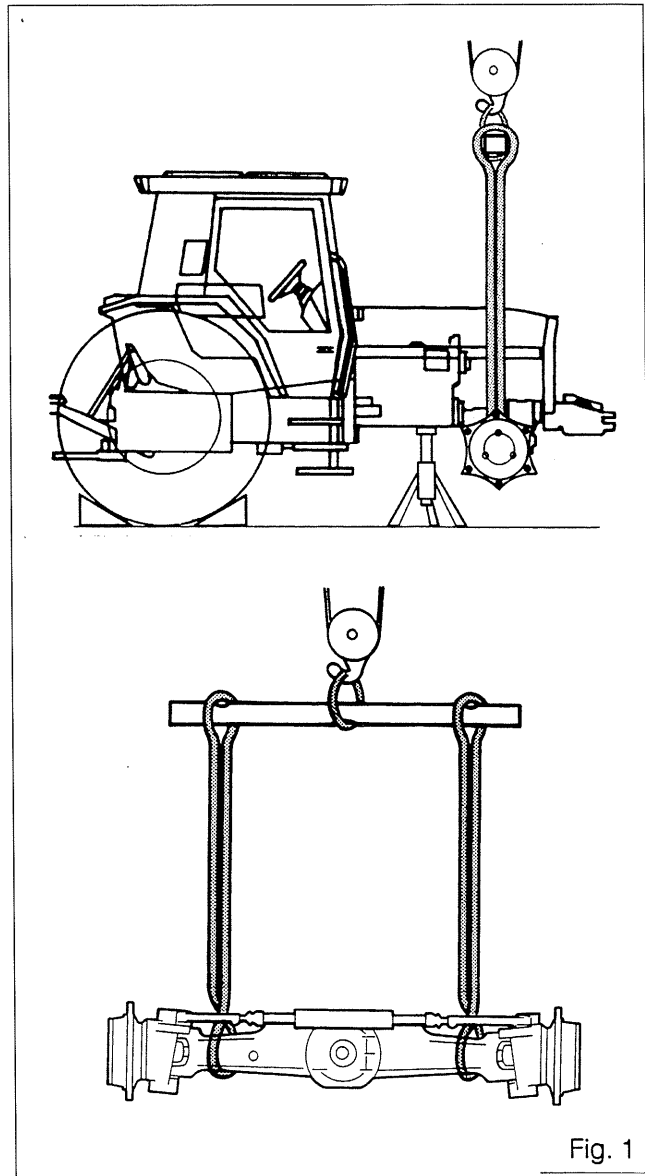

Fig. 1
5. Hoist the front axle with strap slings (Fig. 1).